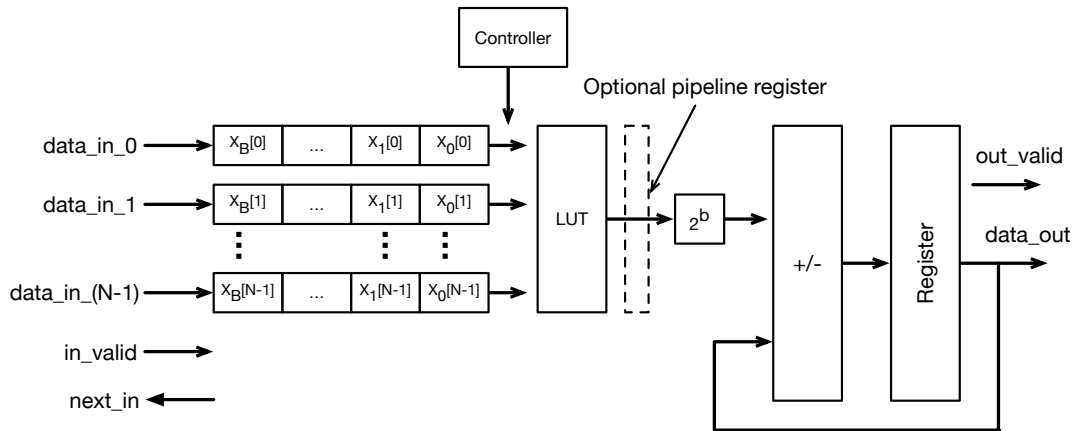
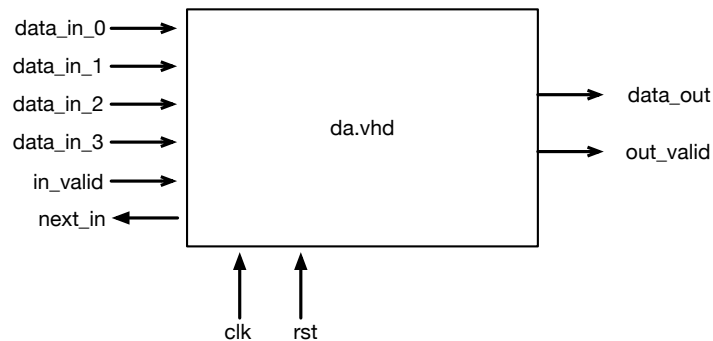

Figure 1 Data flow of a signed DA system
Figure 2 Input, output ports of the design
The data flow (Architecture) of DA looks like Figure 1, and the input, output ports are showed in Figure 2.
- Note that Figure 1 may be incomplete. It is up to your design whether and where to add additional pipeline registers.